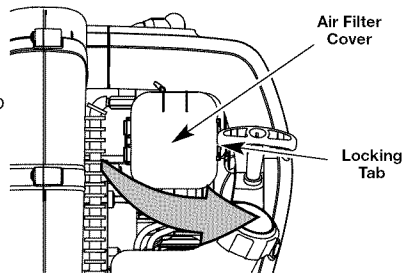

Fig. 17
- Swing the cover to the right until the tab on the air filter back plate snaps into place in the slot on the air filter cover (Fig. 17).